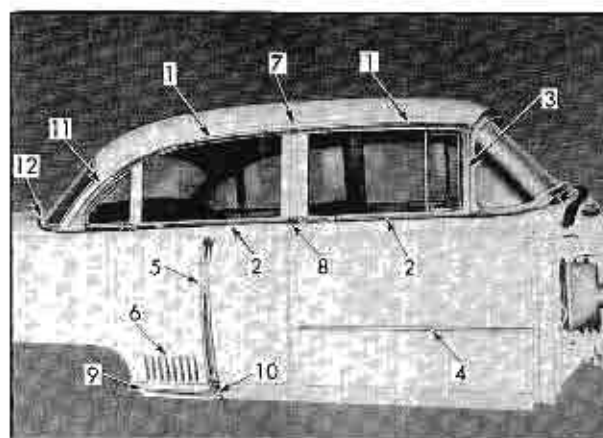
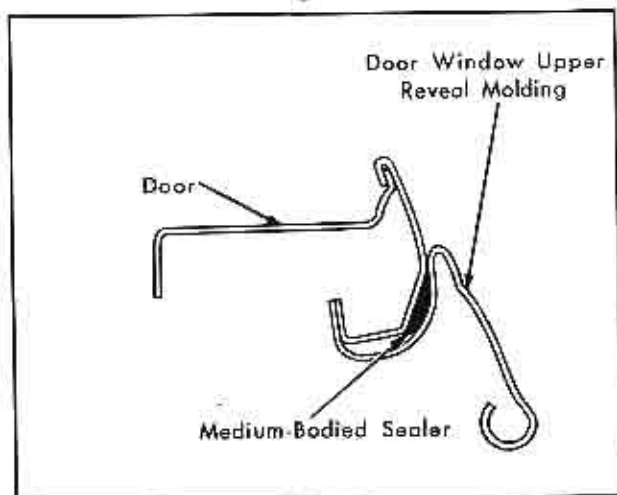

Fig. 3-85 Sedan Body Moldings
Fig. 3-86 Sealing Upper Reveal Molding
1. Front and Rear Door Window Upper Reveal Molding --- Remove door window garnish molding Fig. 3-85 and upper section of glass run channel. Remove molding attaching screws and lower molding from door. To install, reverse removal procedure and apply a bead of medium-bodied sealer to molding as shown in Fig. 3-86 before assembling molding to door.